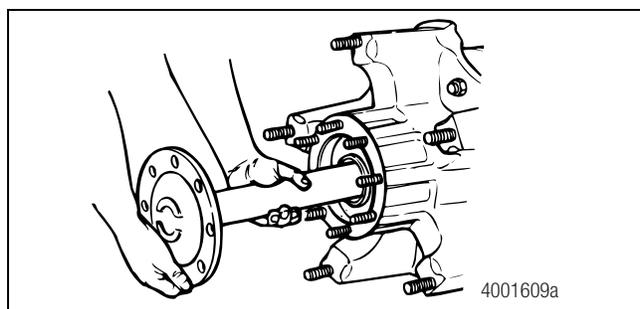

Figure 8.11
5. Pull the axle shaft out of the housing. Figure 8.11.